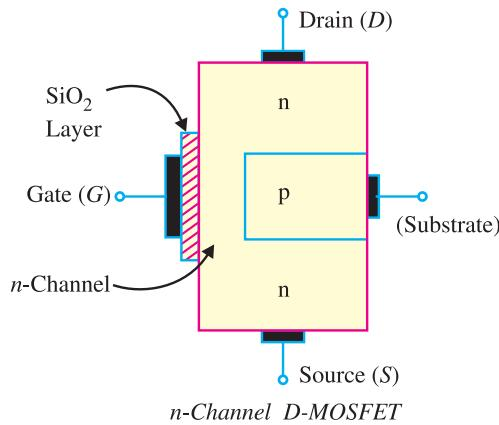

Fig. 19.43
1. D-MOSFET. Fig. 19.43 shows the constructional details of *n*-channel *D-MOSFET*. It is similar to *n*-channel *JFET* except with the following modifications/remarks :
- (i) The *n*-channel *D-MOSFET* is a piece of *n*-type material with a *p*-type region (called *substrate*) on the right and an *insulated gate* on the left as shown in Fig. 19.43. The free electrons (Q^- it is *n*-channel) flowing from source to drain must pass through the narrow channel between the gate and the *p*-type region (*i.e.* substrate).